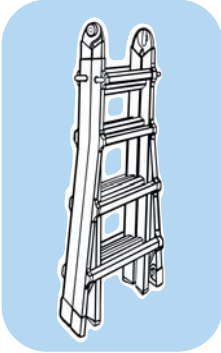

Figure A-1
A. **The Hinge**- located at the top of the ladder when it is in storage position, permits you to alter the shape of the ladder. This hinge locks in the following positions (See Figures A-1, A-2, and A-3).
8. To return the ladder to the storage position, reverse the procedures and position as seen in Figure A-1.